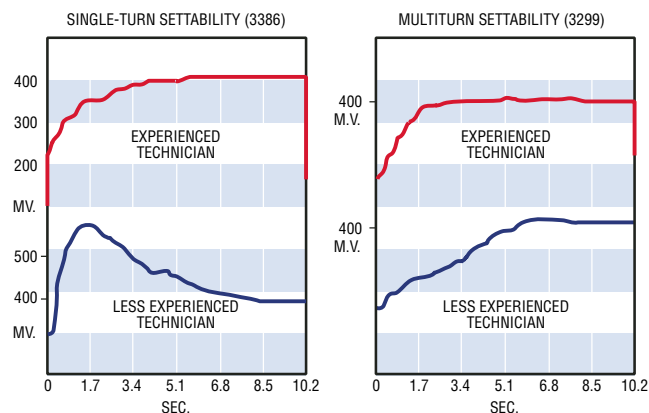

Figure 2.
Setting accuracy is better with a multiturn unit than with a single-turn. This is especially true when the speed of setting is also a requirement as on a production line (Figure 2).
- (1) Feathered edges
- (2) Concave fillet
- (3) Fillet appears smooth
B) Unacceptable (see Figure 2)
- (1) Convex fillet
- (2) Solder balls (5 balls or more per square inch)